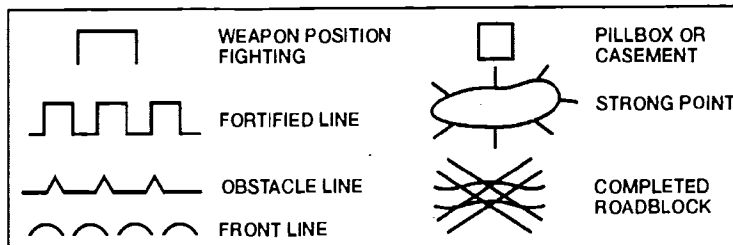

Figure 071-329-1019-11. Fortification and Obstacle Symbols
j. Fortification and obstacles (figure 071-329-1019-11).
k. Wire (figure 071-329-1019-12).